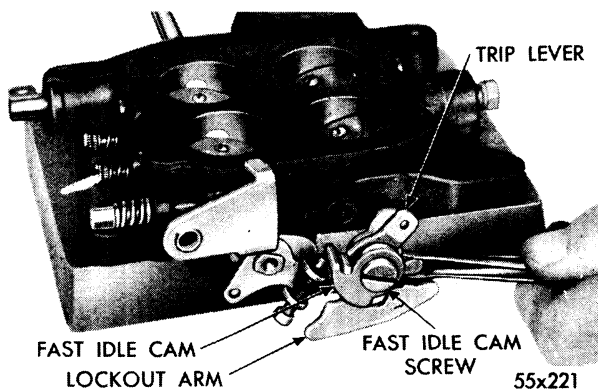

Fig. 7—Removing or Installing Fast Idle Cam Assembly
- (3) Remove the screw that attaches the fast idle cam assembly to the throttle body boss, then lift off the fast idle cam assembly, cam trip lever, lockout arm, and screws as shown in Figure 7. When removing the fast idle cam and trip lever, be sure and note the position of the fast idle cam spring and tangs on the trip lever.
and tighten securely. Be sure all parts move freely. (See Fig. 7.)